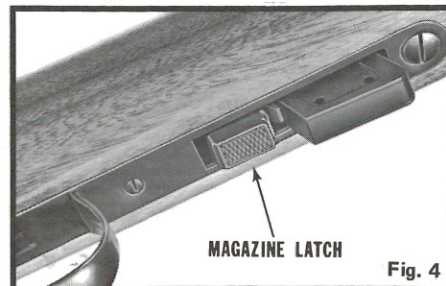

Fig. 4
TO MAGAZINE LOAD — Clip magazine may be removed by rotating magazine latch (Fig. 4) rearward. Capacity of magazine is five (5) cartridges. To reassemble, fit channel opening on rear of magazine over end of magazine guide. Push magazine up into stock until locked in place by magazine latch.